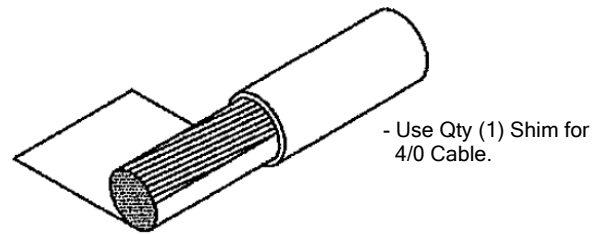

Figure 5
5. Wrap the exposed cable strands with copper shim. See Figure 5.